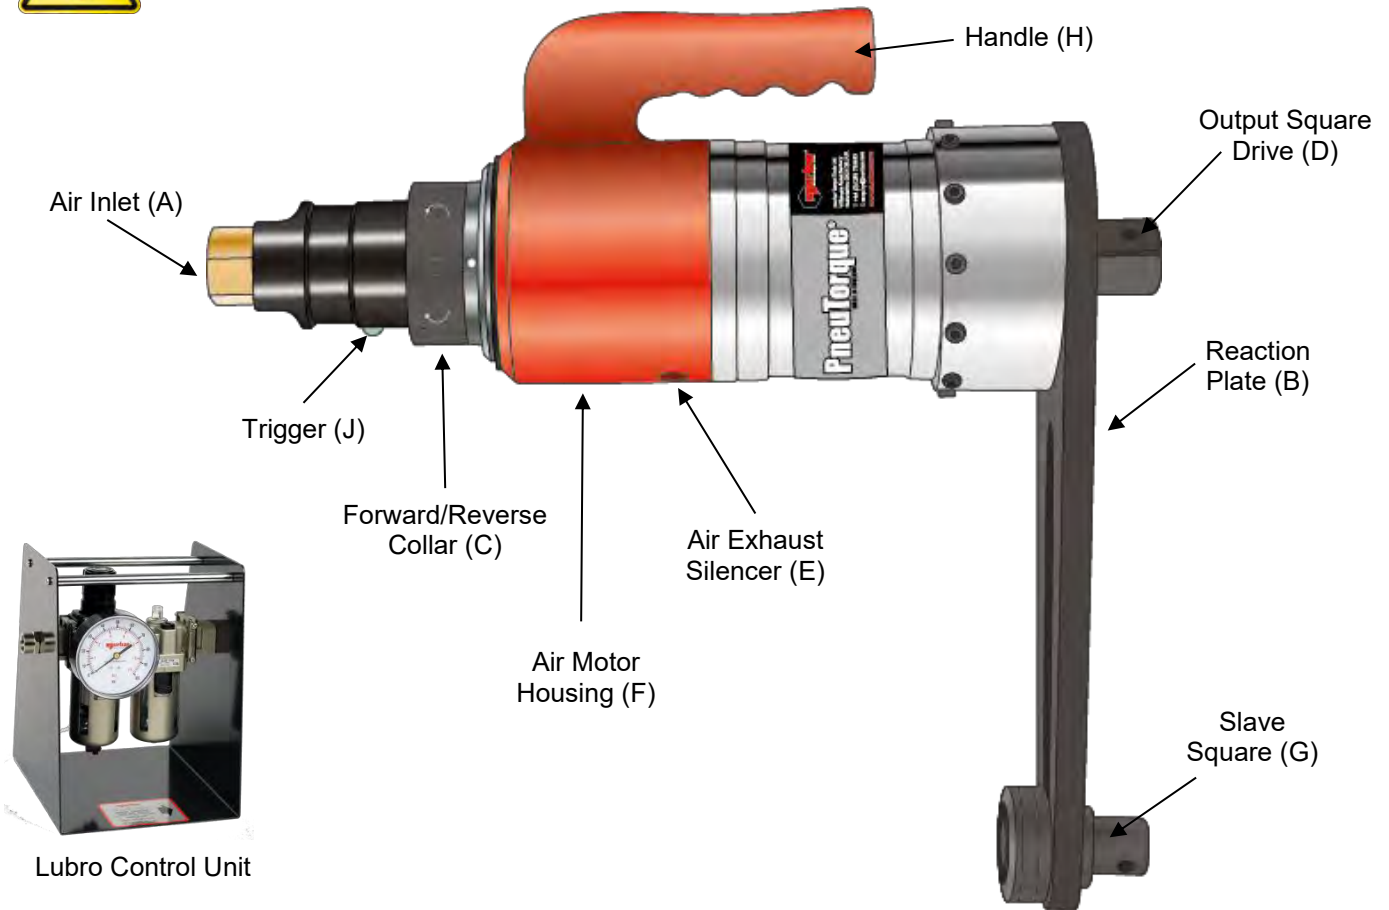

FIGURE 2 – Tool Features
Fit lifting handle (where supplied) to top of the Air Motor Housing ('F' in figure 2.). Adjust the handle position so the tool can be held comfortably. Tighten the socket screws securely.
Fit reaction plate ('B' in Figure 2) to tool using bolts provided and torque to value specified on reaction arm. If no torque is specified follow table below:
5. Press and hold the trigger ('J' in Figure 2) and adjust the lubro control unit pressure until the correct figure is shown on the gauge.